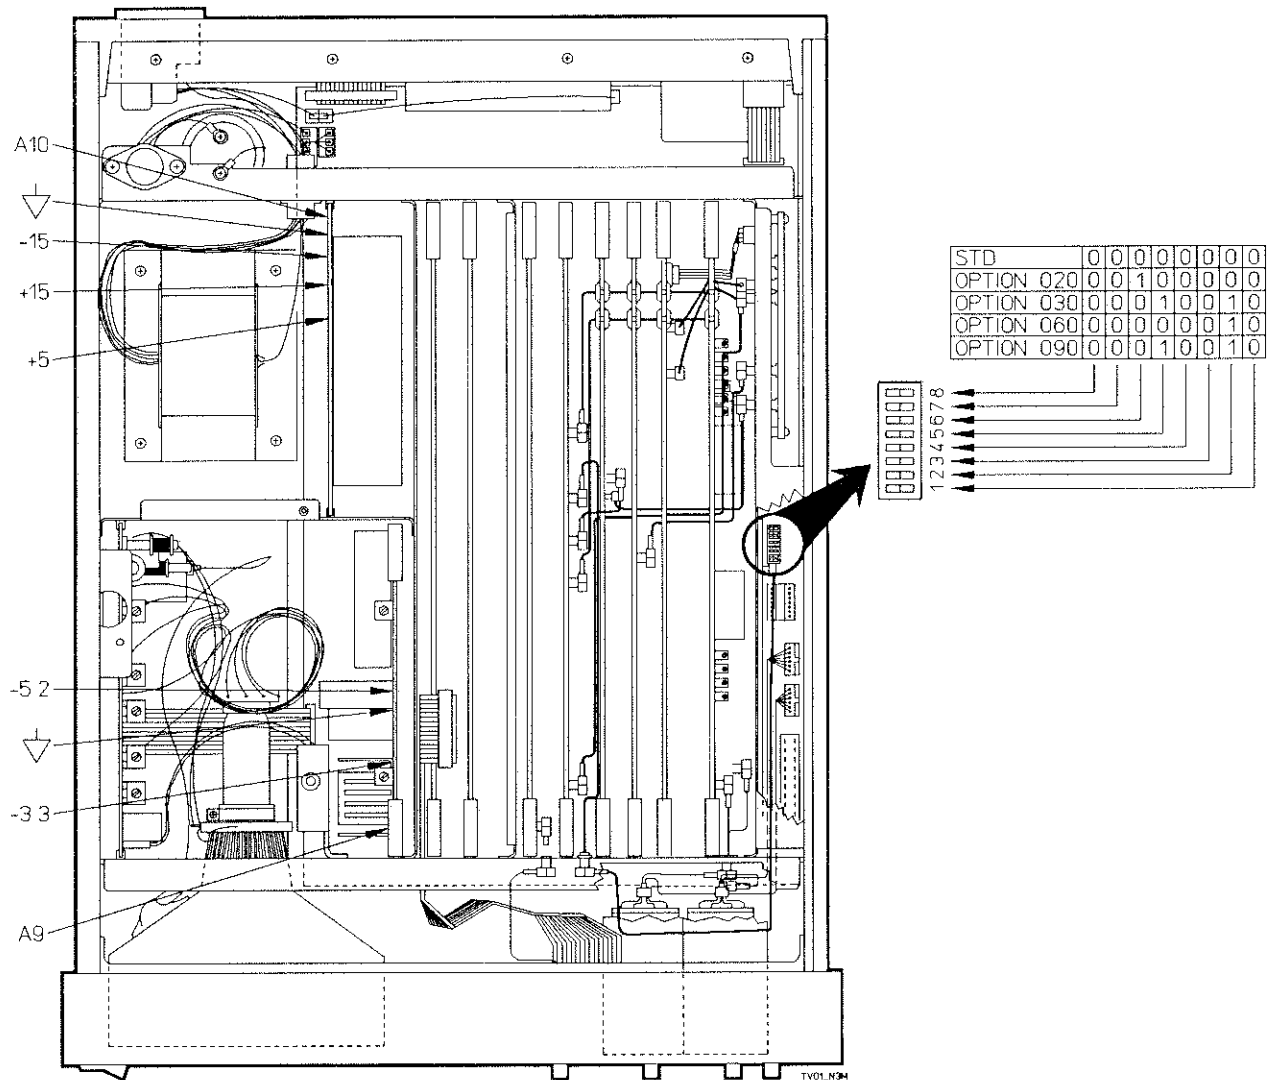

Figure 5-1. HP 5372A Power Supply Locator (Instrument Top View)
2. Measure voltage regulators as shown in *Figure 5-1*.